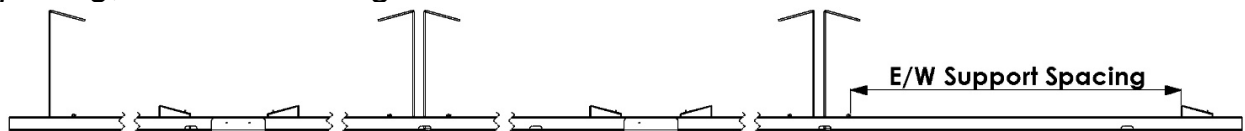

Figure 16 - Single-Panel Bay E/W Support Spacing
- 10 Complete the single-panel bay by clicking in a Top Support at the *E/W Support Spacing*, as shown in Figure 16.